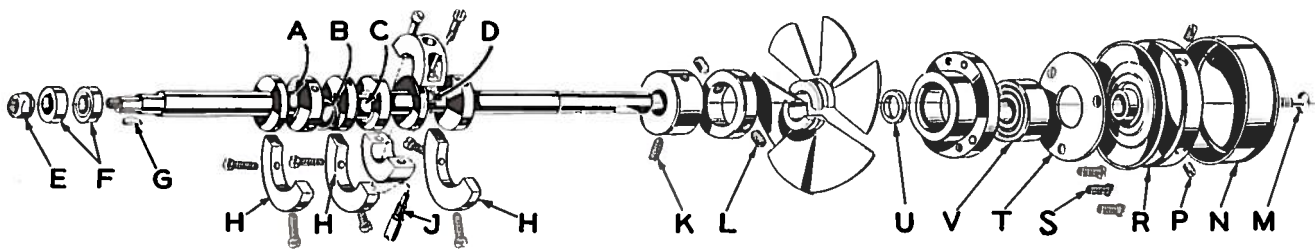
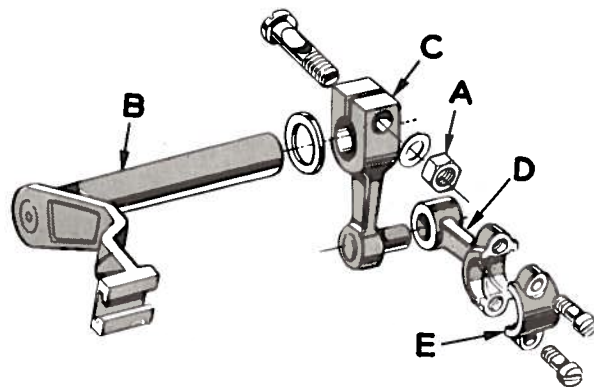

Fig. 19
Fig. 20
3. Remove feed eccentric nut (E, Fig. 19) and, with the aid of the eccentric extractor, slip off the eccentrics (F).
4. Remove key (G).
5. Remove three counterweights (H). Identify these counterweights so that they will be re-assembled in the proper places.
6. Remove screw (J) which holds crankshaft split bearing. This screw is reached through bottom of bed casting.
8. Loosen clamp nut (A, Fig. 20) which holds upper knife driving arm (B). Access to clamp nut is through top cover. Draw driving arm to the left until upper knife driving lever (C) and connecting rod (D) drop, allowing removal of bearing cap (E). This is at bearing point (C, Fig. 19) on crankshaft. Observe same precautions when re-assembling cap as described in 7 above.
9. Remove screw (K, Fig. 19) which holds inner right crankshaft bearing. This screw is reached through bottom of bed casting.
10. Loosen two screws (L) in fan collar; remove both halves of cooling fan.
11. Remove screw (M); take off pulley cap (N).
12. Loosen two screws (P); remove pulley (R).
13. Remove three screws (S); take off bearing retaining plate (T).
15. If necessary to replace ball bearing (V), it should be pressed off shaft on an arbor press. In replacing bearing it must be pressed on carefully until it seats against ground thrust washer (U).